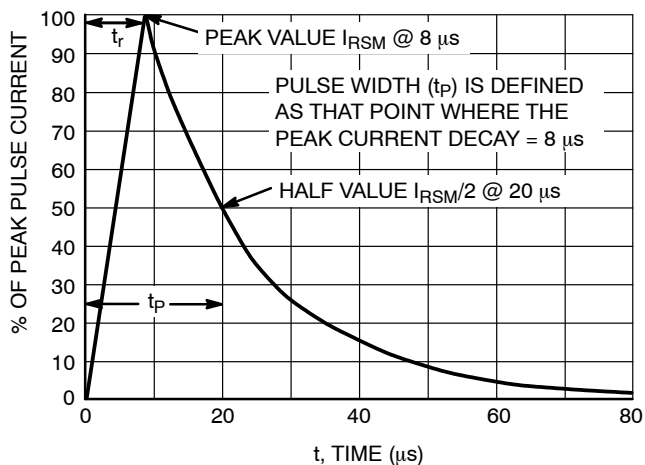

Figure 2. 8 × 20 μs Pulse Waveform
- Peak Power: 150 W @ 20  $\mu$ s (Unidirectional), per Figure 2
- Non-repetitive pulse per Figure 2.
|                               |          | $I_{PP} = 9.37\text{ A}$ (Figure 2) | –   | –   | 16  | V             |